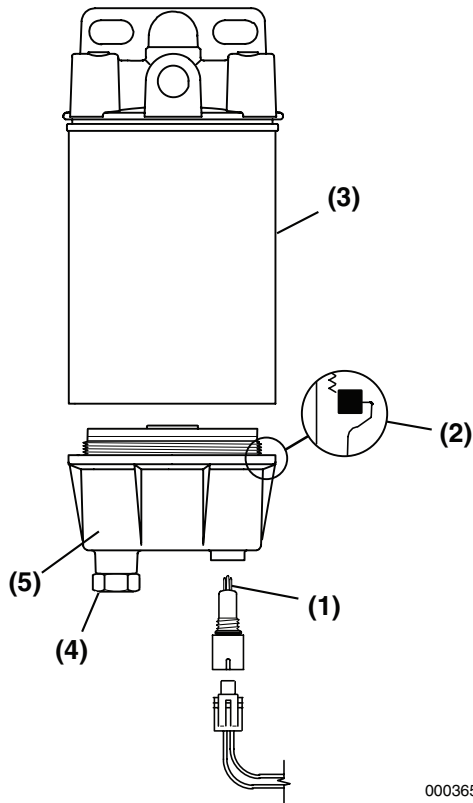

Figure 6-37
3. Loosen the drain plug (**Figure 6-37, (4)**) on the bottom of the fuel filter / water separator and drain off any water or sediment.
4. Disconnect water sensor connector (**Figure 6-37, (1)**).
5. Turn the filter bowl (**Figure 6-37, (5)**) counterclockwise to remove.
- Remove the old filter element (Figure 6-37, (3)).
- Clean the filter bowl. Inspect the water sensor probe (Figure 6-37, (1)) for damage. Inspect the bowl seal (Figure 6-37, (2)). **NOTICE:** When replacing fuel filters, always pre-fill them with fresh, clean fuel to improve the system's ability to be bled.
- Lubricate the seal at the top of the new filter element (Figure 6-37, (3)) and install.
- Lubricate the filter bowl seal (Figure 6-37, (2)) and install the filter bowl. Turn clockwise by hand to tighten.
- Ensure drain plug (Figure 6-37, (4)) is securely tightened.
- Connect water sensor connector (Figure 6-37, (1)).